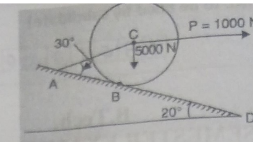

Fig. 2
- A right circular roller of weight 5000N rest on a smooth inclined plane and is held in position by a cord AC as shown in fig.2. Find the tension in the cord if there is a horizontal force of magnitude 1000N acting at C.